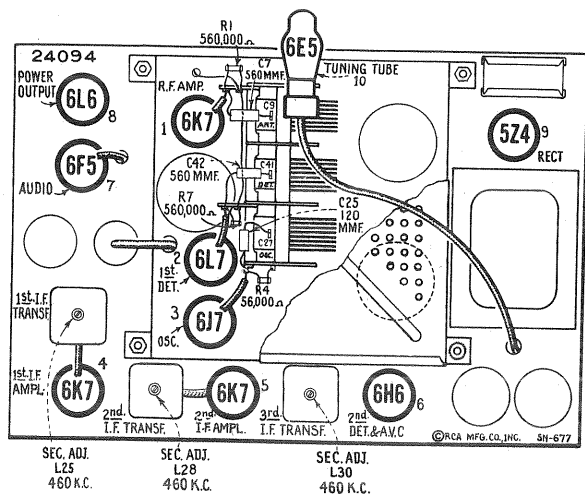

Figure 1—Radiotron and I-F Trimmer Locations
- Adjust the two magnetite core screws L30 and L29 (see figures 1 and 8) of the third i-f transformer (one on top and one on bottom) to produce maximum vertical deflection of the oscillographic image. This adjustment places the transformer in exact resonance with the 460-kc signal.